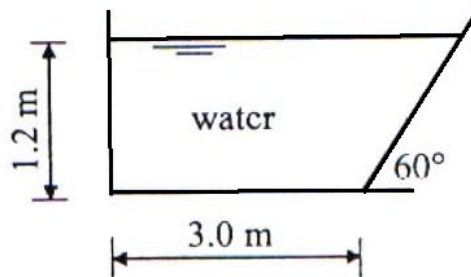

Figure 1
**Q1:** Calculate the total forces on the sides and bottom of the container shown in Figure 1 while at rest and when being accelerated vertically upward at  $3 \text{ m/s}^2$ . The container is  $2.0 \text{ m}$  wide. Repeat your calculations for a downward acceleration of  $6 \text{ m/s}^2$ .